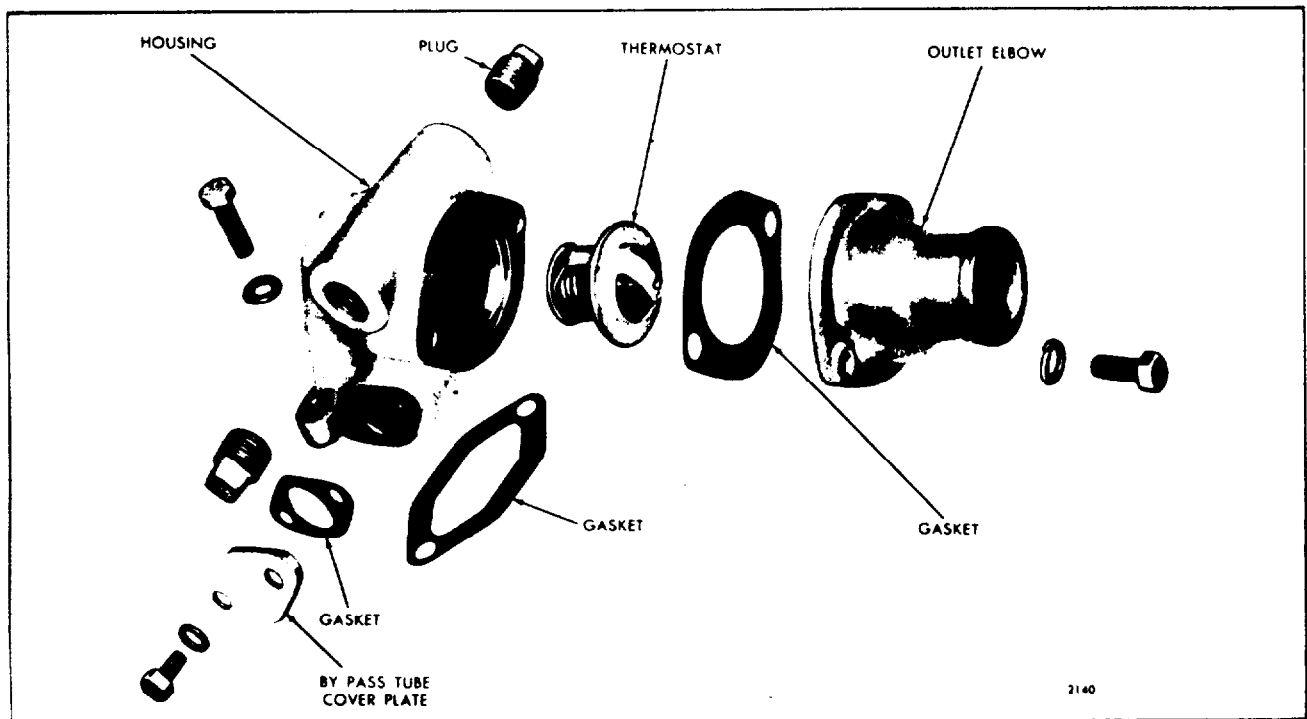

Fig. 2 Thermostat Housing Details and Relative Location of Parts (In-Line Engine)
3. Loosen the bolts and remove the water outlet elbow from the thermostat housing on the in-line engine (Fig. 2). Take out the thermostat.
Refer to Fig 2 and install the thermostat(s) as follows: